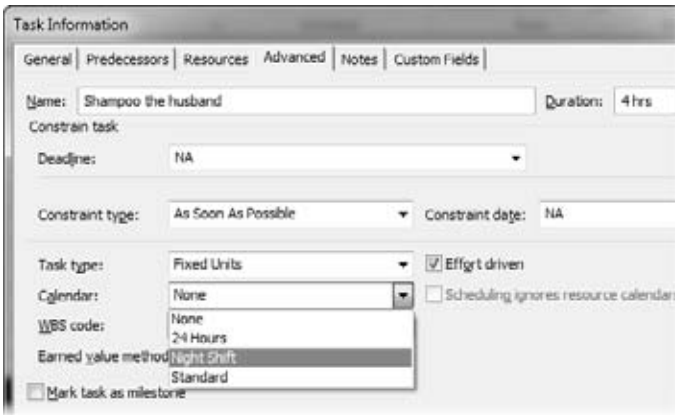

Figure 7-7:
2. Click the Advanced tab and, in the Calendar drop-down list, choose the calendar you want to apply, as illustrated in Figure 7-7.